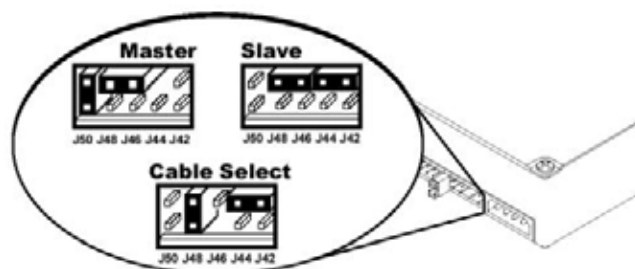

Figure 8-85 Hard Disk Removal 2
- 5) Remove each of the four screws (two on each side), as shown in Figure 8-85 on page 8-97.
- 3) Fasten each of the four screws (two on each side), as shown in Figure 8-85 on page 8-97.